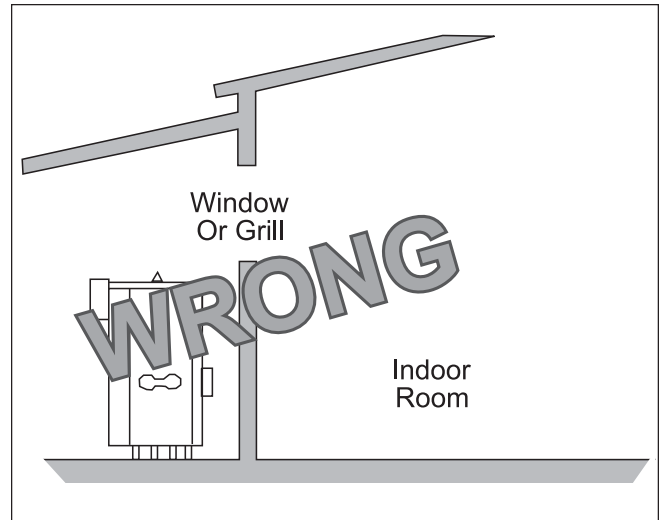

Figure 7. Incorrect Outdoor Installation.
- 2. Do not place the heater in an enclosure or wall recess. Avoid locations where wind deflection off structures might cause down draft. When such wind conditions are possible, place the heater at least three (3) feet from the structures.
- 3. Never install the heater under any kind of roof overhang. Do not place the heater below or adjacent to any doors, windows, louvers, grills, etc. which connect in any way with an inhabited area of a building. This includes other structures such as garages or utility rooms (see Figure 7).